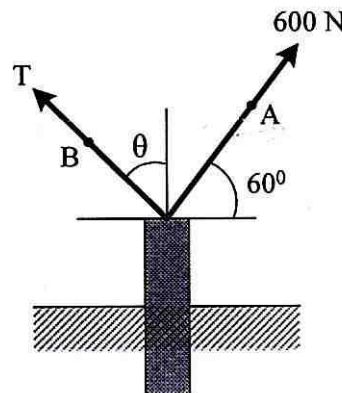

Fig. 1 (a)
1. (a) The post is to be pulled out of the ground using two ropes A and B as shown in Fig. 1 (a). Rope A is subjected to a force of 600 N and is directed at 60° from the horizontal. If the resultant force acting on the post is be 1200 N vertically upward, determine the force T in rope B and the corresponding angle θ . [4]